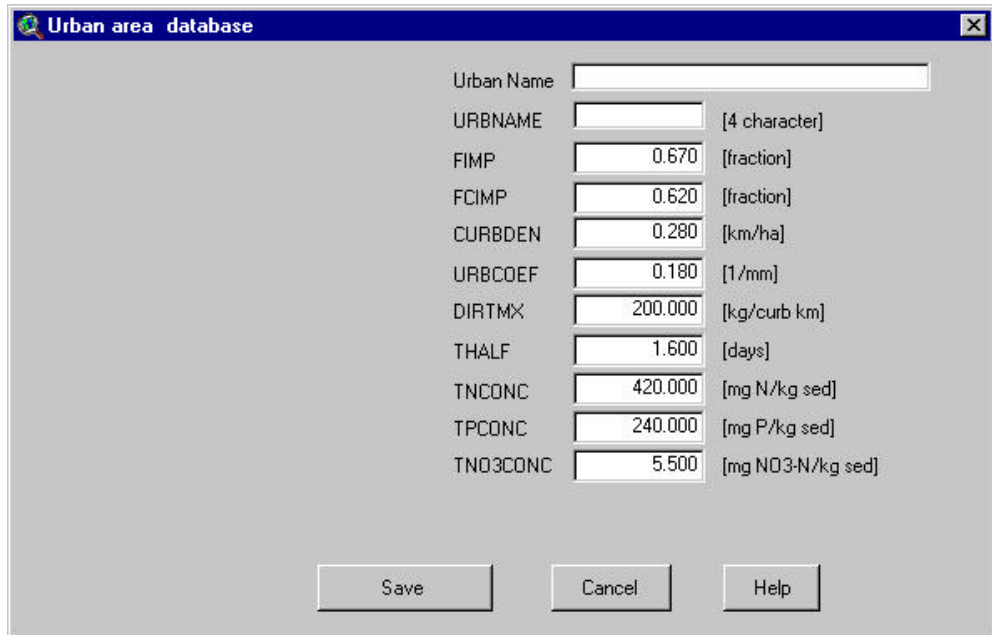

Figure 14.78
- c. A modified dialog box will appear with all the data fields filled (copied from the previously selected urban land type), except the urban land type name (Figure 14.78).